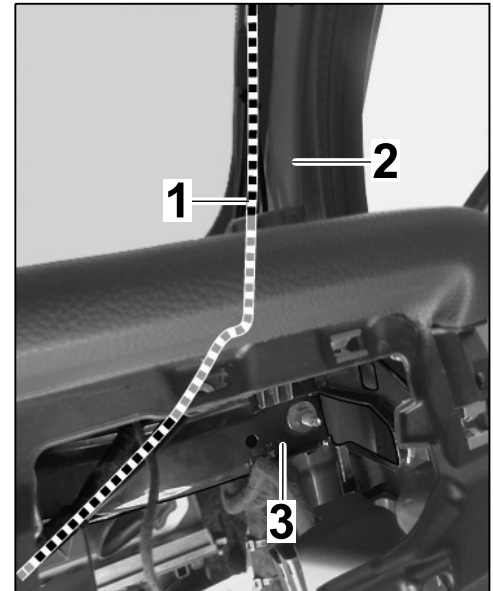

Figure 11
2.7.4 Route GPS antenna line from the A-pillar to the dashboard bracket (⇒ *Figure 11*).